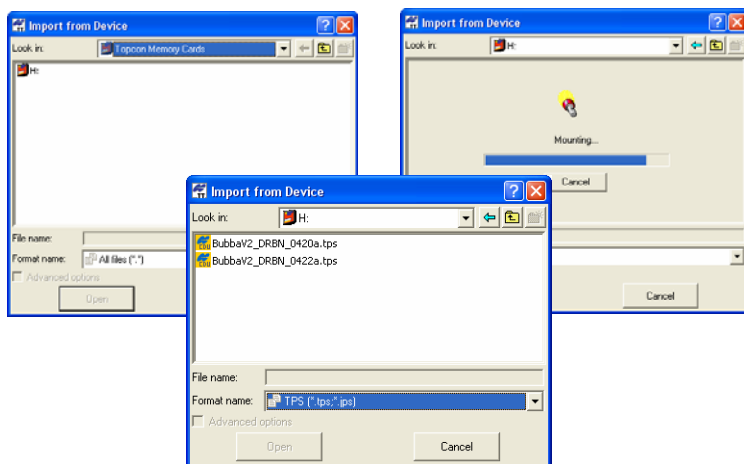

Figure 3-49. Import From Memory Card
3. Click **Memory Card** in the *Import from Device* dialog box. If the SD card was formatted in receiver's file system, the disk, which designate the Topcon Memory Card, will be displayed as red (Figure 3-49).